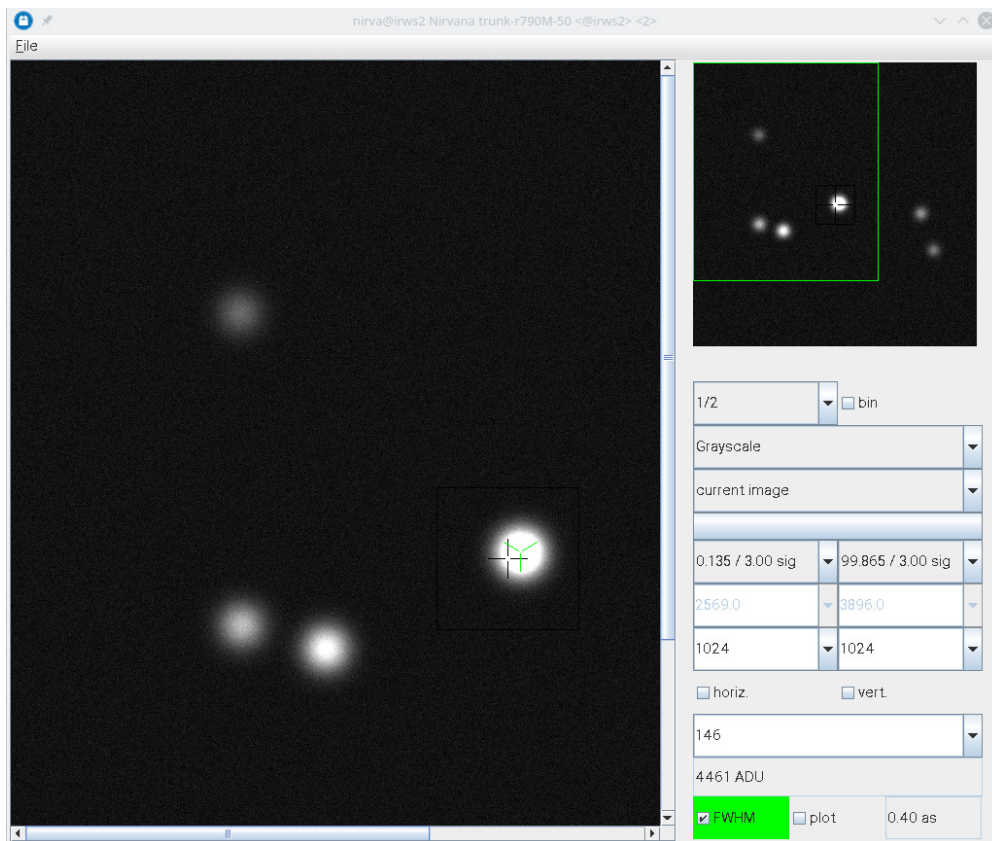

Figure 16: Current Exposure Display. Right after GEIRS startup this shows the white-on-blue logo of the MPIA.
4.3.3.1 Introduction The display tool, Figure 16 works similar to `ds9` or `fv` tools with some display options and similar statistics. The GEIRS display, however, is completely unaware of world coordinate systems standards. Some online data processing techniques are available. These interactive operations (magnifying, scrolling forward and backward through the frames, setting ADU cut levels, ...) affect only the displayed data but do not manipulate the raw data that have been or will be saved to disk.
to the `QueueFiles` shell script (Sec. 3.3). As an alternative to using the `type` command one may use the full path of `xpaset` or make sure by symbolic links that the `path` contains the executable. Note that `ds9` sometimes needs to read `ds9-64` depending on how this was compiled. With that setup, opening the GUI in Figure 16 may be superfluous.
The menu on the right hand side of Figure 16 has a number of fields, which are described from top to bottom in the subsequent paragraphs.